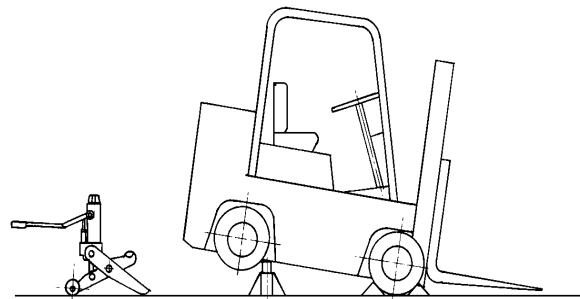

Figure 1
- Place support stands under the axles before working on the vehicle. See Figure 1.